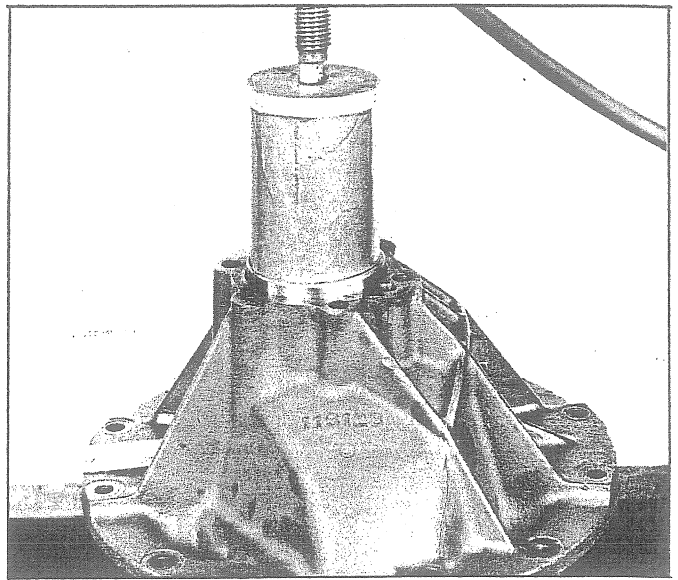

Fig. 116 - Pressing Pinion Shaft Assembly into Differential Carrier
11. Remove companion flange from pinion shaft -- then press pinion shaft assembly into differential carrier as shown in Fig. 116. Pressure should be applied only to "dual" bearing cup. Make sure that cup is seated firmly against the shoulder in carrier housing.